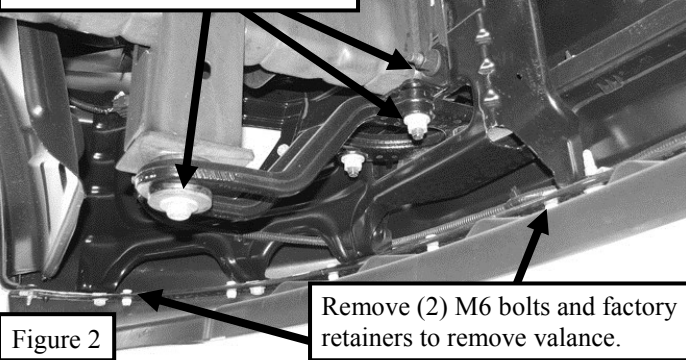

Figure 2
- Remove the lower bumper front valance by removing the two M6 bolts at the ends and prying out the center pins of the plastic retaining clips with a flat head screwdriver. **See Figure 2.**
4. **On vehicles with factory tow hooks:** Start the installation on the driver side, behind the front bumper. Remove the factory tow hook. **See Figure 2.** Remove the two hex nuts on the bottom of the bumper bracket securing the 2-bolt tow hook mounting bracket to the frame.